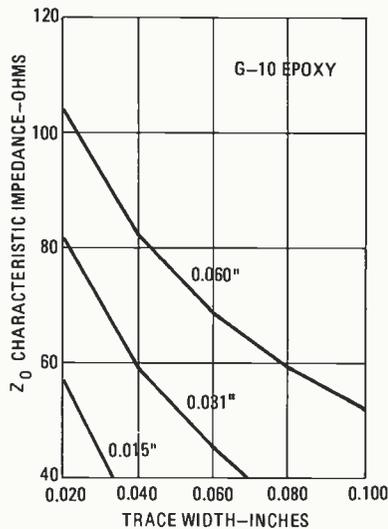

FIG. 4—USE THIS CHART to determined microstrip trace width for various impedances and thicknesses of G-10 epoxy board.
Figure 4 is the functional simplified schematic for a field telephone (**do not attempt to build that circuit**). Momentary switch S4 is not part of the field telephone, it is added when the phone is converted to a Red Box; so for now, consider that S4 does not exist. Once again, S1 is the hook switch. When S2 is set to N (NORMAL) and S1 is closed, DC flows from line A through T1's secondary (S),
FIG. 4—A SIMPLIFIED RED BOX. Switch S2 lifts the handset from the telephone line and connects two D-cells as a local power supply. The circuit is DC-isolated from the telephone line even when hook switch S1 is closed.